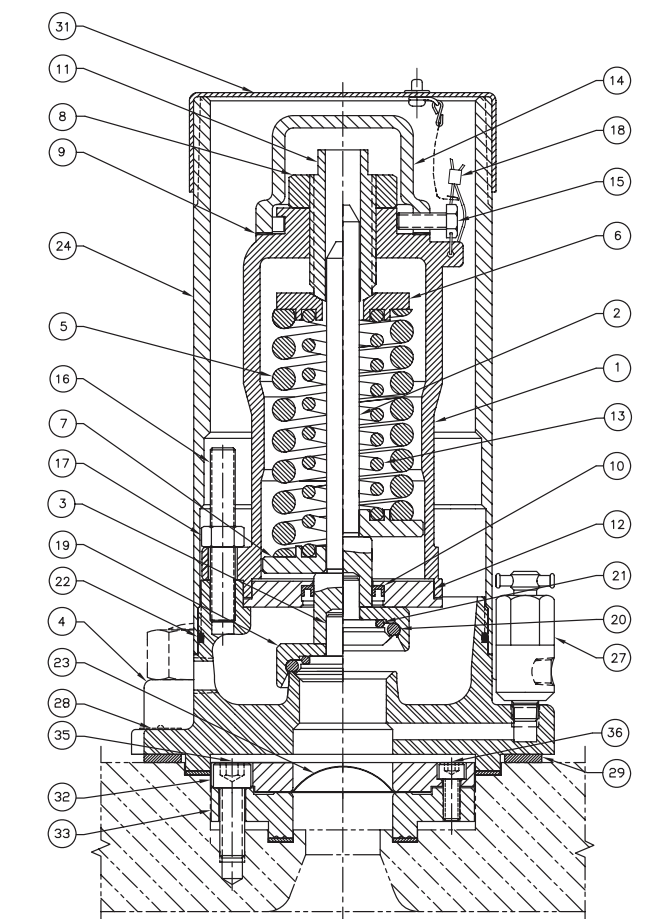

Figure 19 - Valve Components (Inspection)
4.5.2.13 If there is a needle valve (Fig. 19), pipe plug, or indicator on the side of the valve, open the needle valve or remove the plug or indicator. This is necessary to equalize pressure in the chamber above the disc.